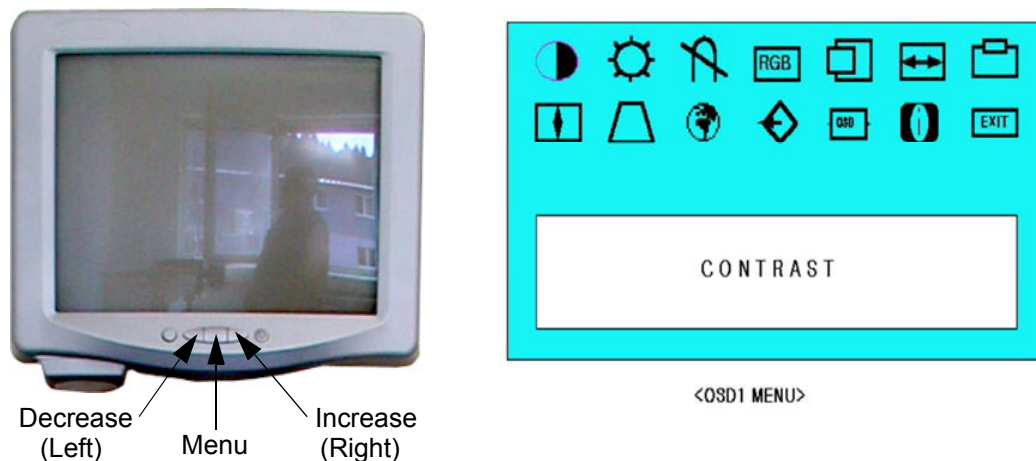

Figure 6-1 Monitor Adjustment buttons
- 1.) Press and hold the MENU (middle) key (see: Figure 6-1) on the monitor controls for approximately 4 seconds till the OSD menu appears on the screen.
- 1.) Press the MENU (middle) key (see: Figure 6-1) on the monitor controls